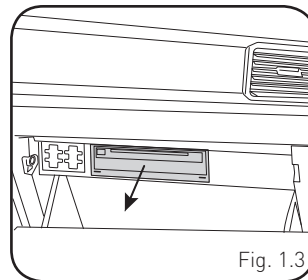

Fig. 1.3
- [8 inch radio]** Open glovebox and locate the factory CD player. Using 2 of the supplied removal tools, remove the CD player in the same fashion the radio was removed. Disconnect main wire harness and all antenna connections. (Fig. 1.3)